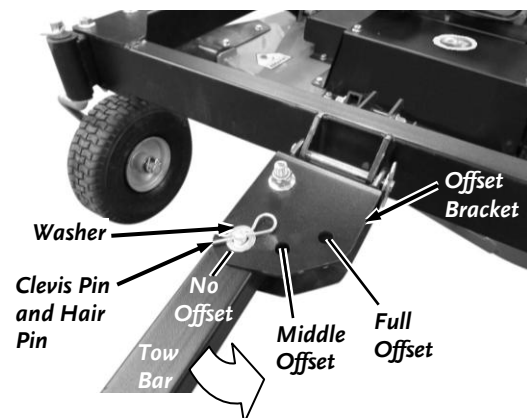

Figure 33
1. Remove the Hair Pin, Washer, and Clevis Pin that secures the Tow Bar in the Offset Bracket (**Figure 33**).